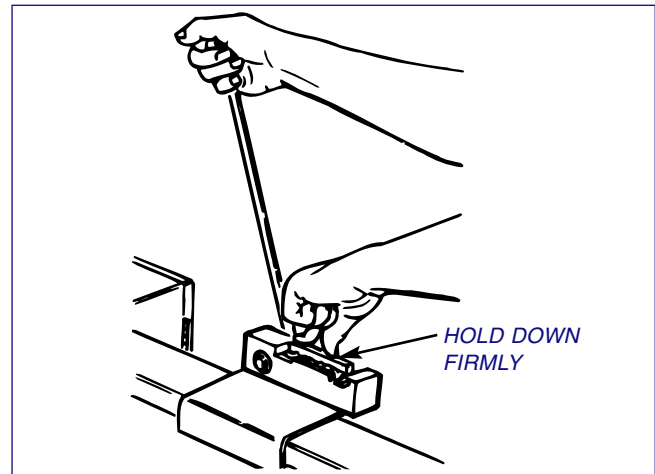

FIGURE 3-13, Seat Stone
6. Seat Stone in Master Stoneholder by pressing down with fingers (*see Figure 3-13*). Pull lever forward until Stoneholder hits stop. Stone is now in place.